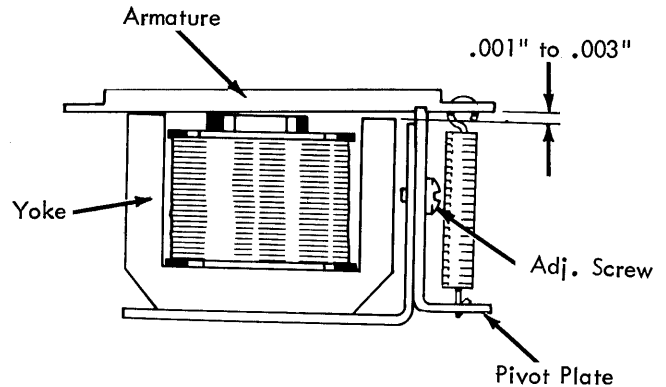

FIGURE 168. Pivot Plate
2. Carrier Return and Space Bar Magnet Pivot Plate (Fig. 168) - Position as follows: